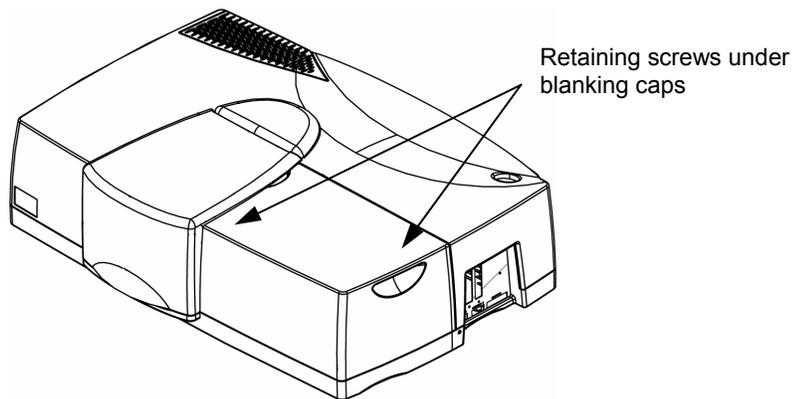

Figure 26 Undoing the retaining screws
3. Undo the two retaining screws located under the blanking caps on the top of the detector (Figure 26) and are accessible using the long posidrive screwdriver supplied with the instrument.